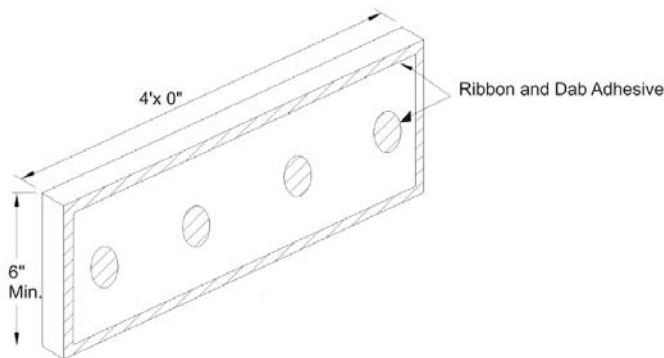

Figure 7
- 8.3.8. Tops of walls, sills of continuous windows and other horizontal system terminations are terminated using 152 mm x 305 mm x 1.2 m (6 in x 12 in x 48 in) closure blocks. These are adhered to Backstop NT using a ribbon and dab adhesive pattern as shown in the Figure 7.